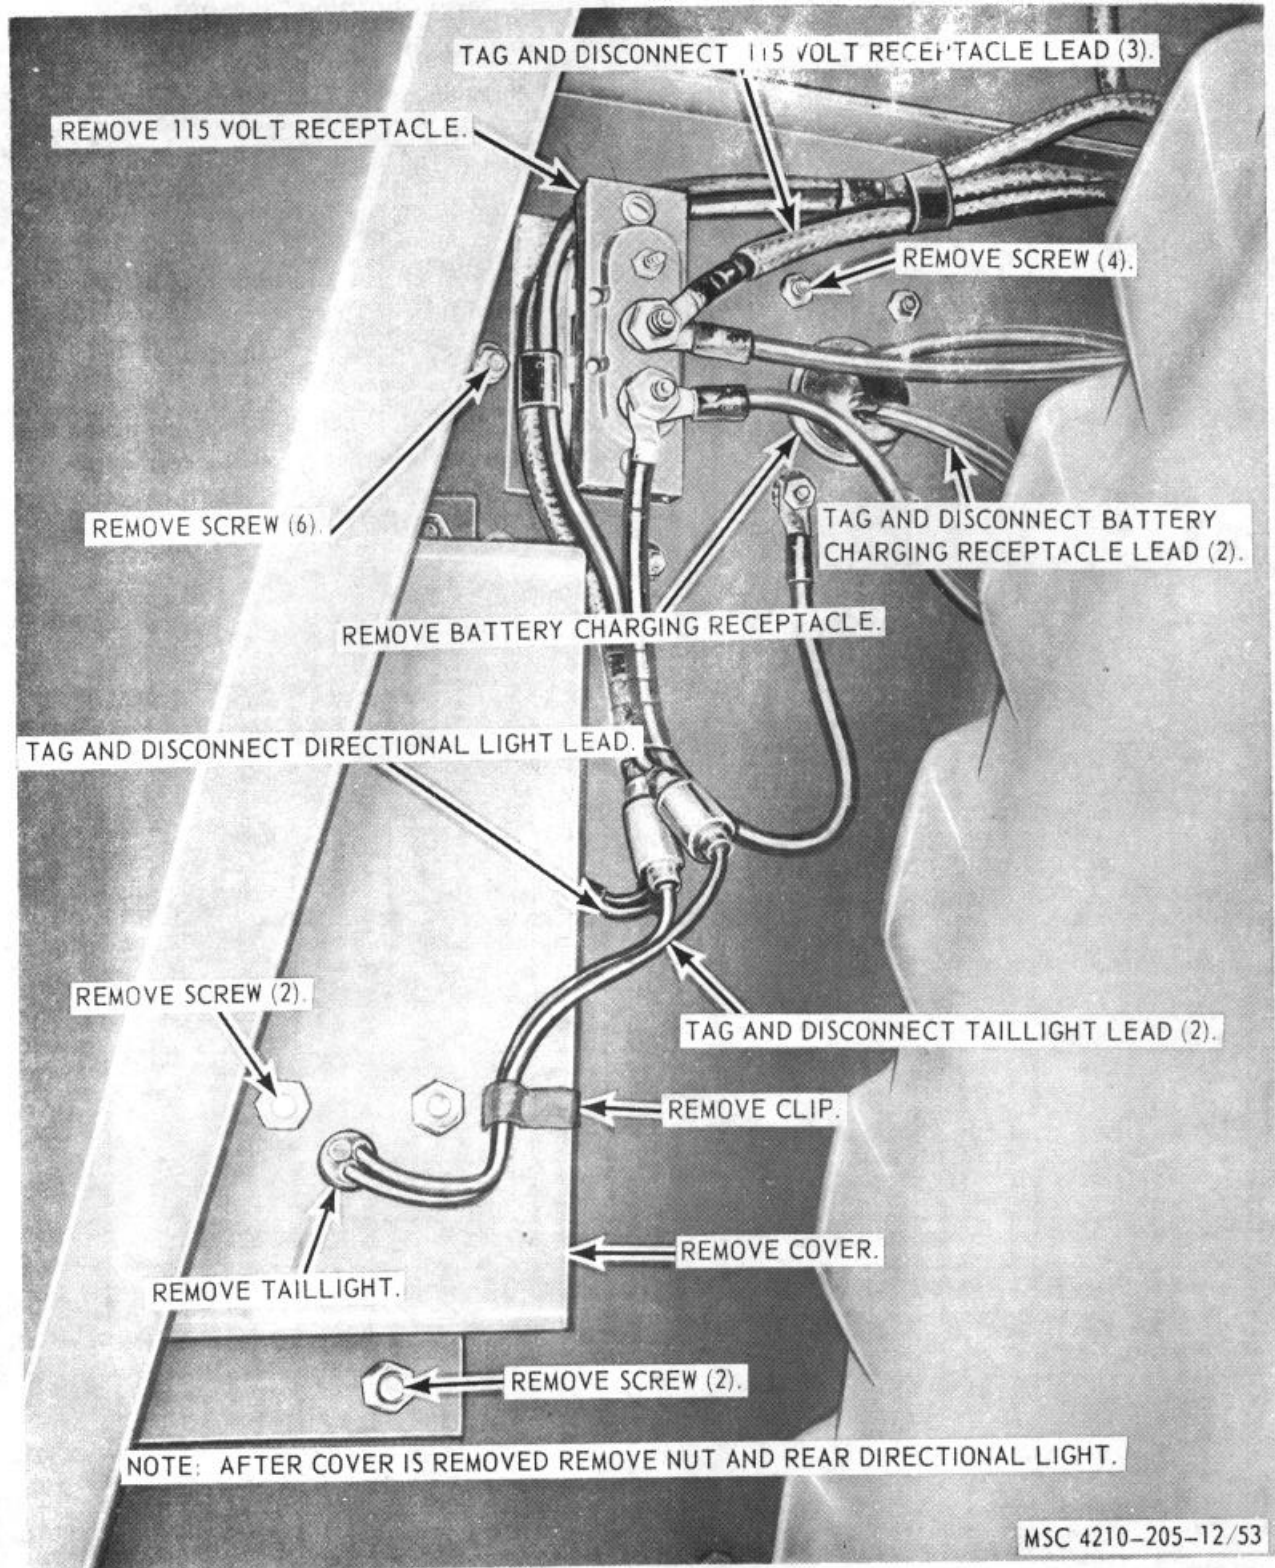

Figure 53. Rear directional light and taillight, removal and installation.
a. *Removal.* Refer to figure 53, and remove the rear directional light from the fire truck panel.
- (1) Clean all parts with a clean cloth dampened in an approved cleaning solvent, and dry thoroughly.
- (2) Inspect lens, gasket for damaged or defective condition.
- (3) Inspect lamp for cracks, breaks, or burned out condition.
- (4) Replace or repair damaged or defective parts as necessary.
c. *Installation.* Refer to figure 53, and install the rear directional light on tile fire truck panel.
a. *Removal.* Refer to figure 53, and remove the taillights from the fire truck panel.
- (2) Inspect lens, gaskets, and door for damaged or defective condition.
c. *Installation.* Refer to figure 53, and install the taillights on the fire truck panel.
a. *Removal.* Refer to figure 53, and remove the battery charging receptacles from the rear apron.
- (2) Inspect all parts for damaged or defective condition.
- (3) Replace or repair damaged or defective parts as necessary.
c. *Installation.* Refer to figure 53, and install the battery charging receptacles on the rear apron.